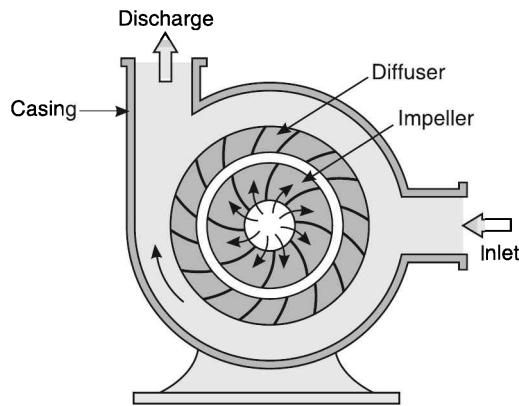

FIGURE 18.85 Centrifugal pump.
- (b) **Casing:** The casing is nothing but an airtight chamber surrounding the impeller of the pump with guide vanes. It contains (i) impeller (ii) support for impeller bearings and (iii) suction and discharge arrangements as shown in Figure 18.85. The main purposes of casing are (i) to guide water to and from impeller, and (ii) to partially convert the kinetic energy to pressure energy. The casing has guide vanes mounted on a ring which is called *diffuser*. The diffuser with guide vanes is most efficient arrangement in a casing for the conversion of kinetic energy of water into pressure energy without any eddy losses.